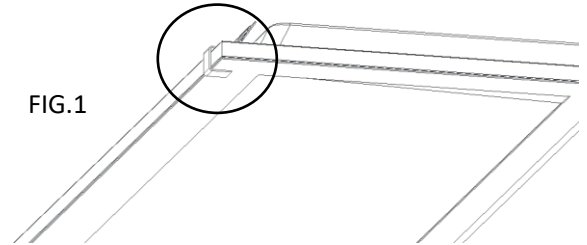
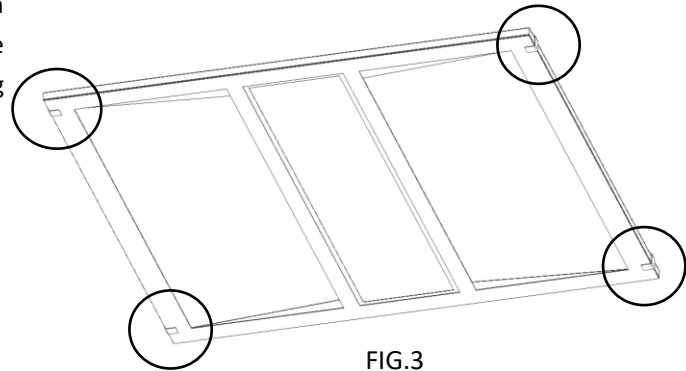
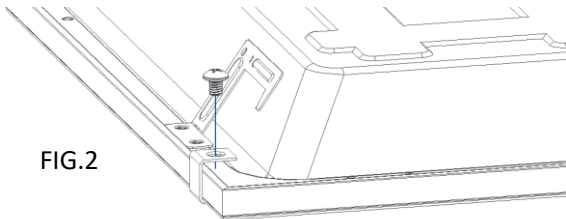
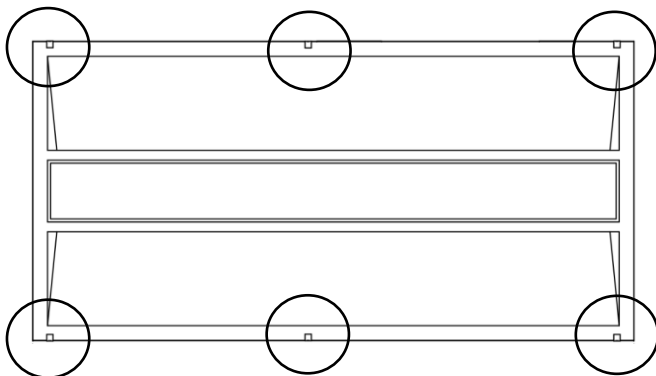

FIG.1
FIG.3
FIG.2
FIG.4
- 3) Place the lens clips on the lens (FIG.1), securing with a screw on the backside of the fixture (FIG.2). Make sure that the clips are installed according to FIG.3 for 2x2 and FIG.4 for 2x4, aligning multiple clips on the same side of the fixture.